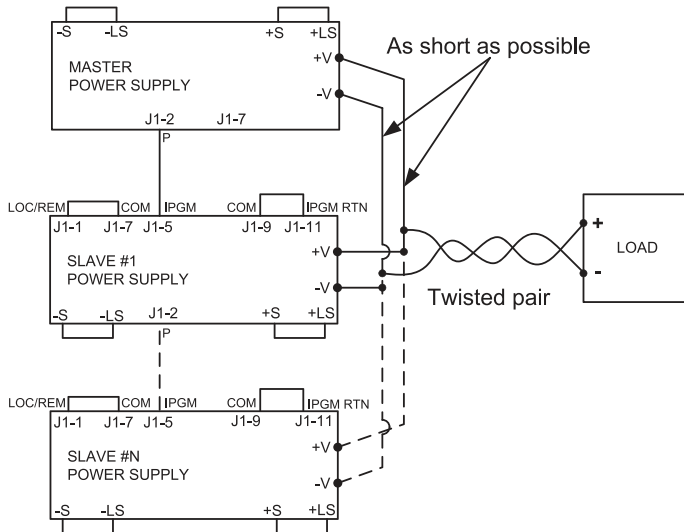
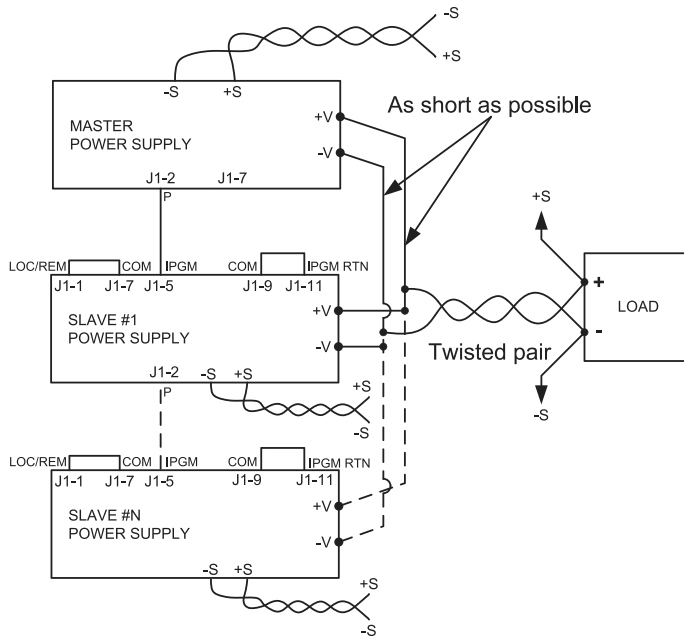

Fig.5-4: Parallel connection with local sensing
Fig.5-5: Parallel operation with remote sensing
During operation, the master unit operates in CV mode, regulating the load voltage at the programmed output voltage. Connect the sensing circuit to local or remote sensing as shown in Fig.5-4 or Fig.5-5. Front Panel Main Menu Parallel mode is "H1" as default.
5. For wiring instructions, refer to Fig.5-4: Parallel connection with local sensing or Fig.5-5: Parallel connection with remote sensing.
In parallel operation, power supplies can be connected in local or remote sensing. Refer to Fig.5-4 and 5-5 for typical connections of parallel power supplies. The figures show connection of two units, however the same connection method applies for up to 6 units.
During operation, the master unit operates in CV mode, regulating the load voltage at the programmed output voltage. Connect the sensing circuit to local or remote sensing as shown in Fig.5-4 or Fig.5-5.
6. For wiring instructions, refer to Fig.5-4: Parallel connection with local sensing or Fig.5-5: Parallel connection with remote sensing and Section 5.6: Daisy-Chain connection.